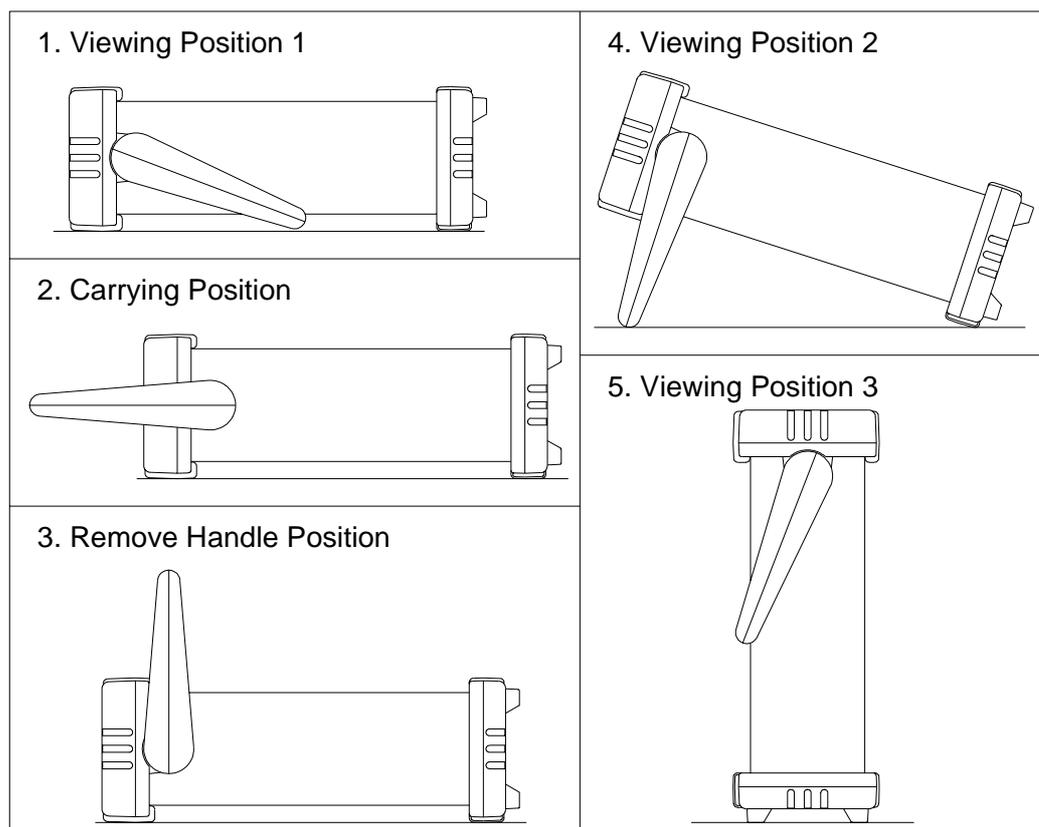

Figure 2-3. Adjusting Handle
For bench-top use, the handle can be adjusted to provide three viewing angles. For viewing positions, pull the ends out to a hard stop (about 1/4 inch on each side) and rotate it to one of four stop positions (shown in Figure 2-3) To remove the handle, adjust it to the vertical stop position and pull the ends all the way out.
1. Adjusting the handle of the meter to its upward vertical stop position (refer to Figure 2-3) and pull the ends all the way out.